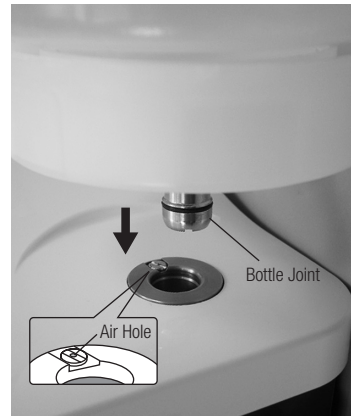

Fig.3
- 3) Close the cap of VA Bottle, check the Air Hole is clean and insert the Bottle Joint into the Bottle Base Connector until it clicks. (Fig. 3)